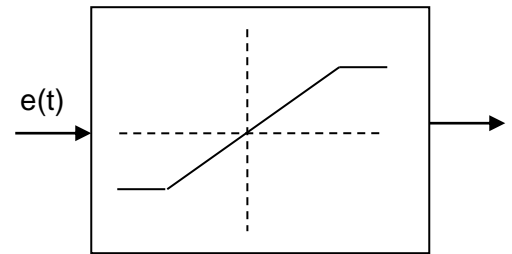

Fig. 6. Proportional Controller with saturation
A typical proportional controller may have an input-output characteristics as in Fig. 6. Such controller gives non-zero steady state error to step input for a type-0 system as indicated earlier. The proportional (P) block in system consists of a variable gain amplifier having maximum value. $K_{p_{max}}$ of 20.